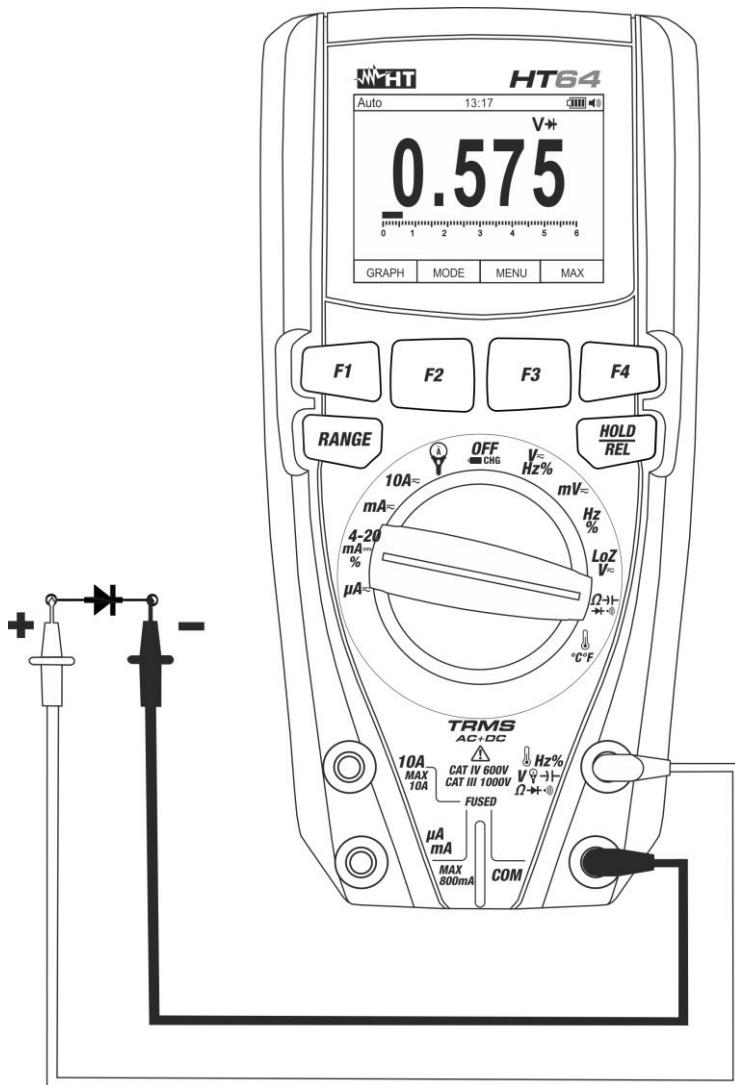

Fig. 27: Use of the instrument for diode test
4. Position the leads at the ends of the diode to be tested (see Fig. 27), respecting the indicated polarity. The value of directly polarized threshold voltage is shown on the display.
6. If the display shows the message "**O.L.**", the terminals of the diode are reversed with respect to the indication given in Fig. 27 or the P-N junction of the diode is damaged.